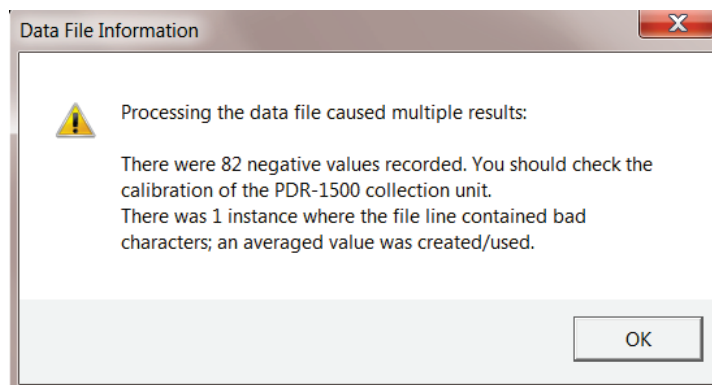

Figure 19. The EVADE main window after an existing dust exposure analysis is selected through the Open command.
3. Click on the desired filename of the dust exposure analysis you want to open, then click **Open**. The EVADE main window will update to display the video in the video display area and the dust concentration data graph (Figure 19).